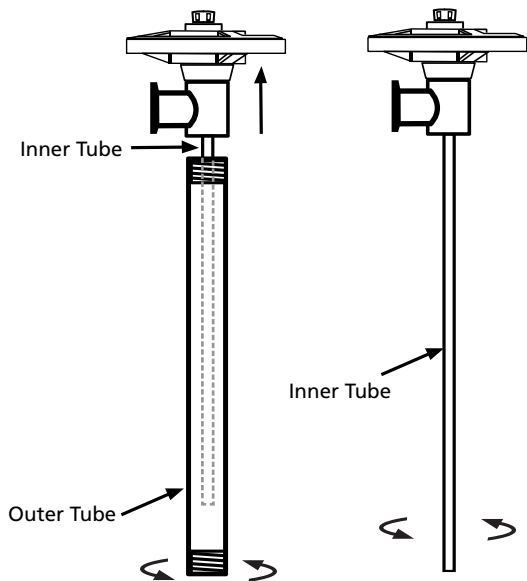

Figure 6
6. For plastic and aluminum models remove outer tube and inner tube from discharge housing by turning clockwise (see Figure 6).